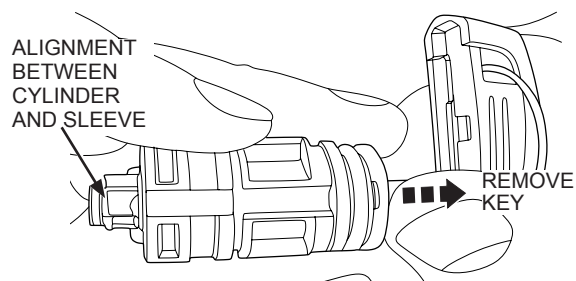

FIGURE 7
8. Hold the cylinder and sleeve and carefully remove the key (Refer to Figure 7). Cylinder cannot be removed from sleeve at this point, if this occurs, tumblers will fall out.